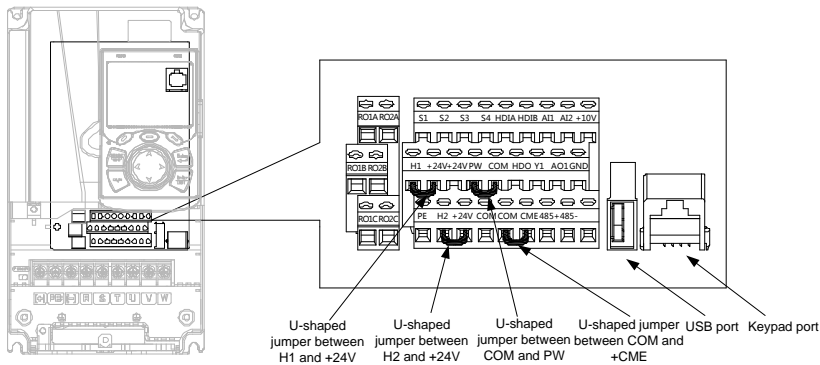

Figure 4-23 Position of U-shaped jumper
**Note:** As shown in Figure 4-23, the USB port can be used to upgrade the software, and the keypad port can be used to connect an external keypad. The external keypad cannot be used when the keypad of the inverter is used.